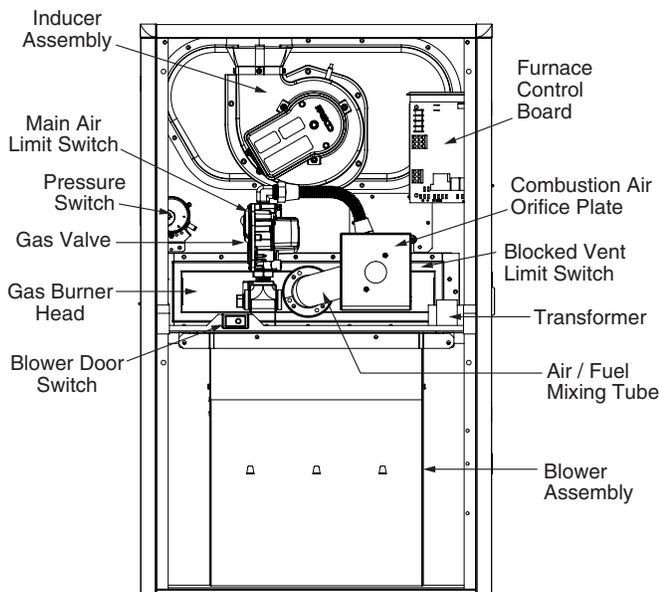

Figure 1. G8SA Furnace Components
The furnace components shown in Figure 1 will help to identify and locate various parts of the furnace. The component you need to familiarize yourself with is the gas valve. You will use this to turn the furnace on and off. **There are no user serviceable parts. All repairs must be performed by a licensed HVAC technician.**
7. Set the gas valve switch or knob to the OFF position. See Figure 1 for gas valve switch or knob location.
NOTE: Your furnace may be equipped with one of three types of gas valves. Remove the door panel from the front of the furnace and determine which valve type matches your installation in Figure 1. Move the switch to the OFF Position.